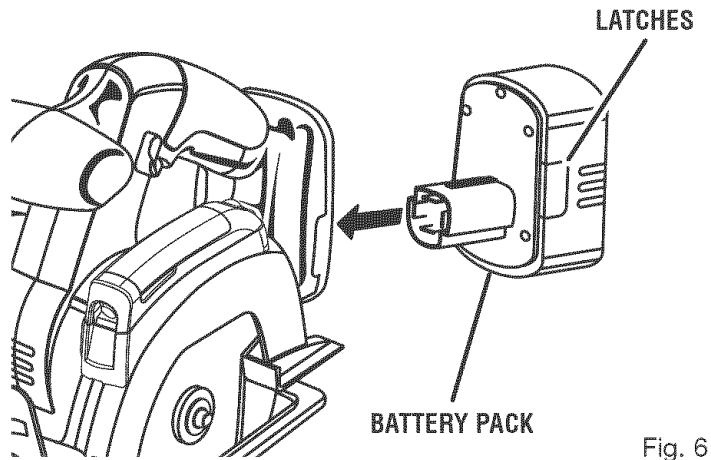

Fig. 6
- Position saw as shown in figure 6, depress spindle lock button, and remove blade screw.
See Figure 6.